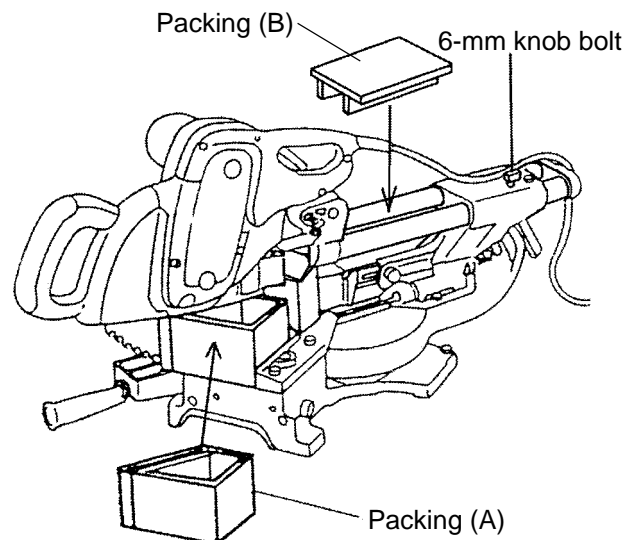

Fig. 55
(2) How to install packings (A) and (B)
Slide the head section toward the operator and insert packing (B) between the slide pipe, hinge and holder (A). Push the head back and secure the slide in position with packing (B) inserted by means of the 6-mm wing bolt. Place packing (A) under the head and push the head down. Insert the locking pin while pressing the packing (A) to secure the head section in position (Fig. 55).